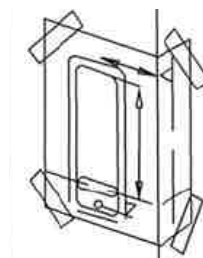

Figure 1
- Position and tape the template (XX76501), to the internal door face, at the desired height from the floor level. (Figure 1)